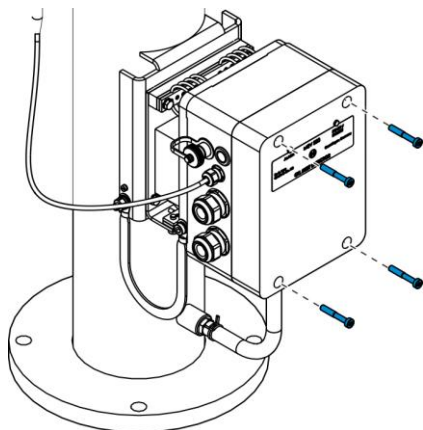

Fig. 62: Removing screws
2. Remove the screws of the housing cover (Fig. 62).